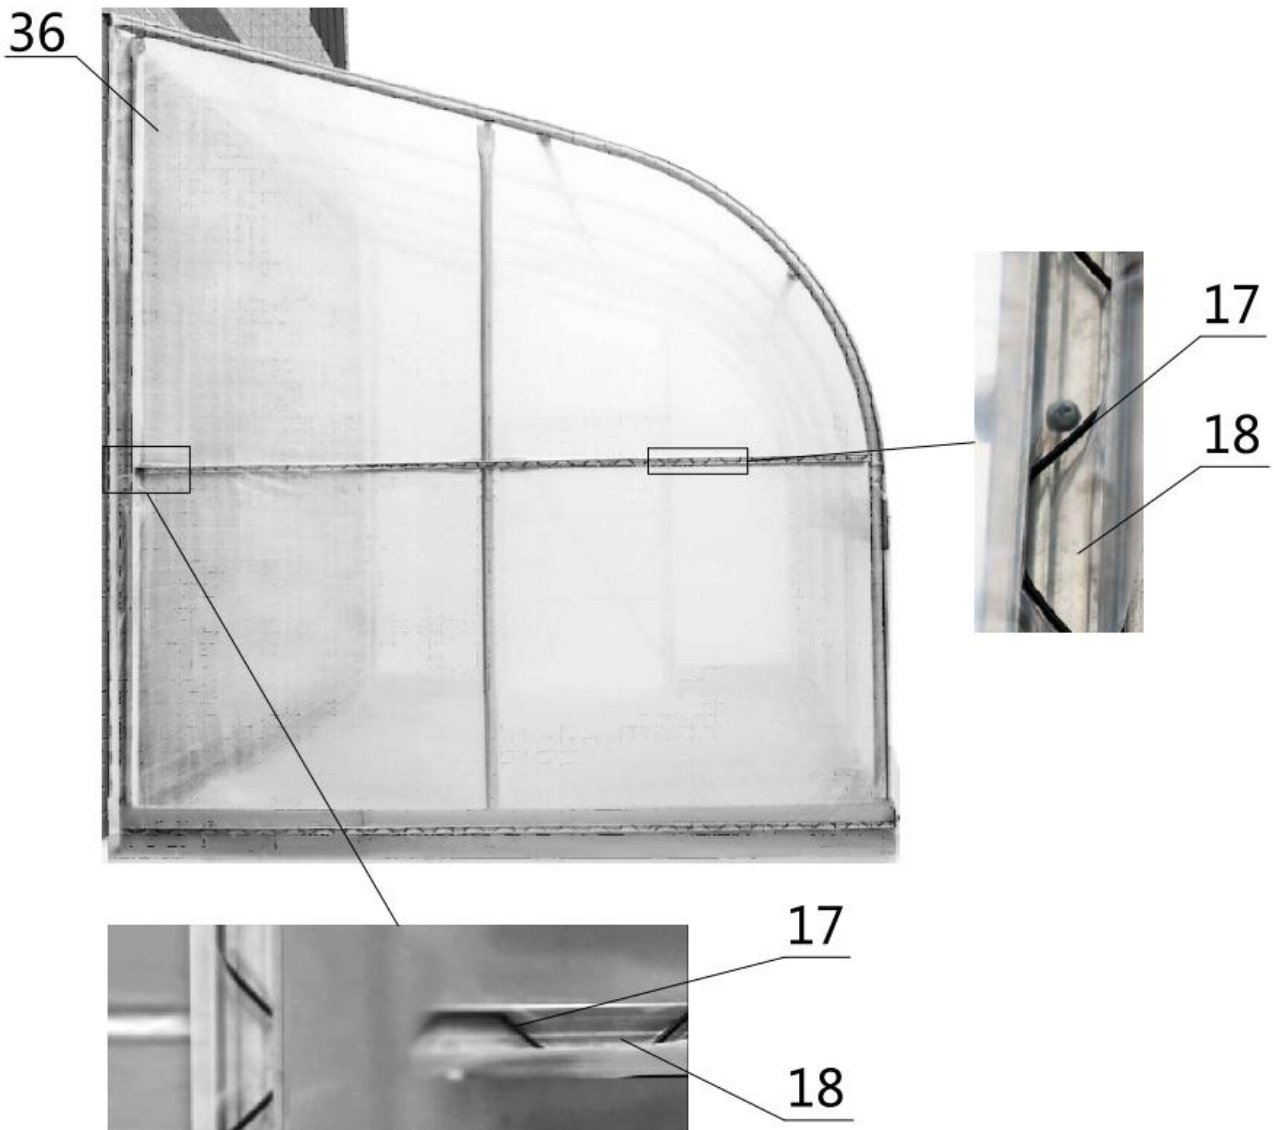

Figure 10
- Installation and distribution of rear clamping film groove (refer to figure 10). The excess parts can be trimmed off.
- (8) Clip spring (#17)